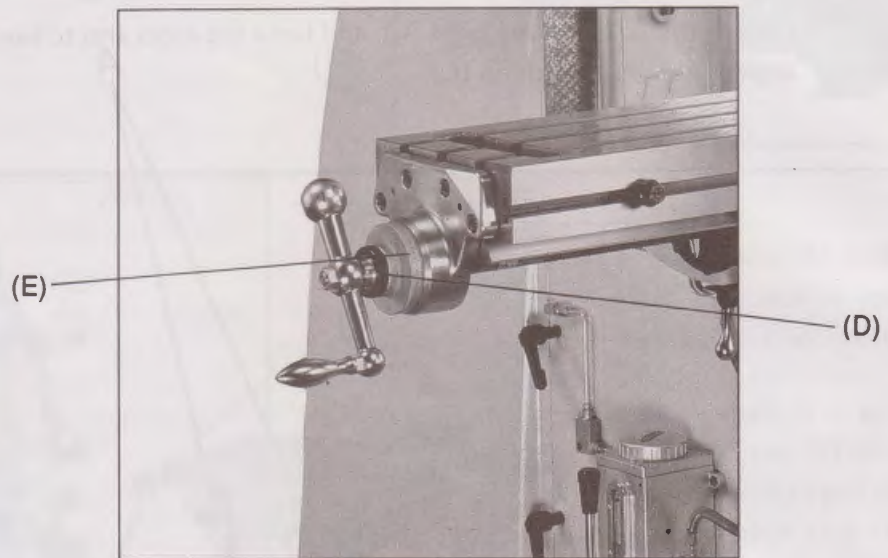

Figure 18
(2) Zero Positioning (as shown in Figure 18) of Dial Ring of Table Feed.
- a. Loosen the nut (D) of dial ring.
- b. Turn the dial ring (E) to zero position.
- c. Lock the nut (D) of dial ring.
(3) Setting of Sliding Surfaces of Work Table, Saddle and Knee: